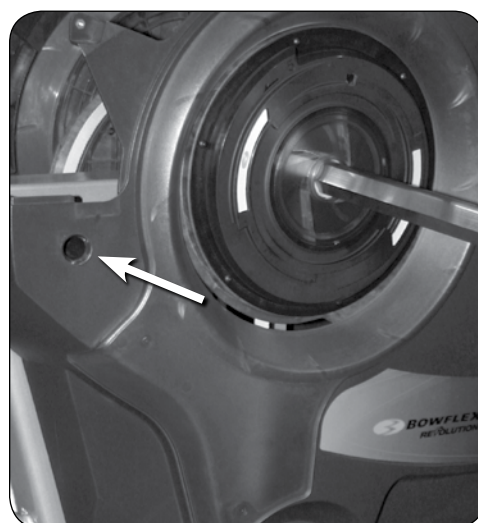

Figure 10d - Location of long screw to secure shroud
- 10-3** Secure the Shroud with five phillips head screws (one longer screw and four shorter screws) from Step 5. Note the location for the long screw in **Figure 10d**.